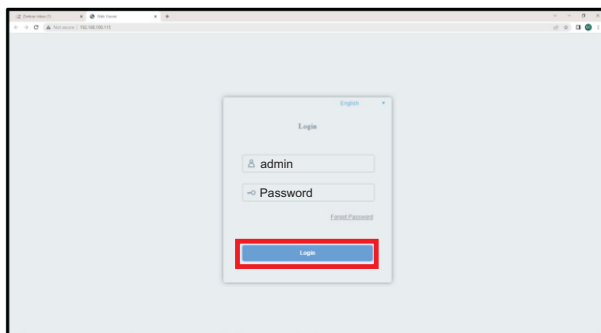

Figure 5. IP Camera login page
10. IP camera's login page will be displayed as shown in Figure 5.
11. Enter the IP Camera's Username and password. (Default username is "admin" and default password is "admin12345") Then click the Login Button. See Figure 5.